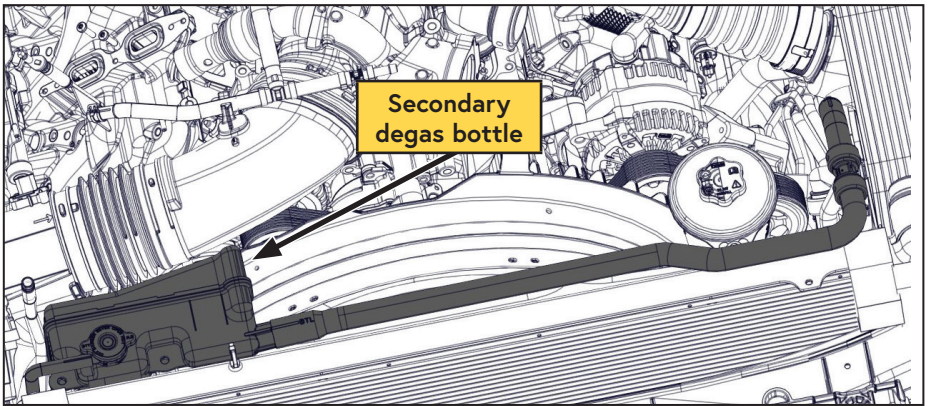

Figure 3 — Remove the secondary degas bottle
- ☐ Remove the secondary degas bottle (and hose) (Figure 3).